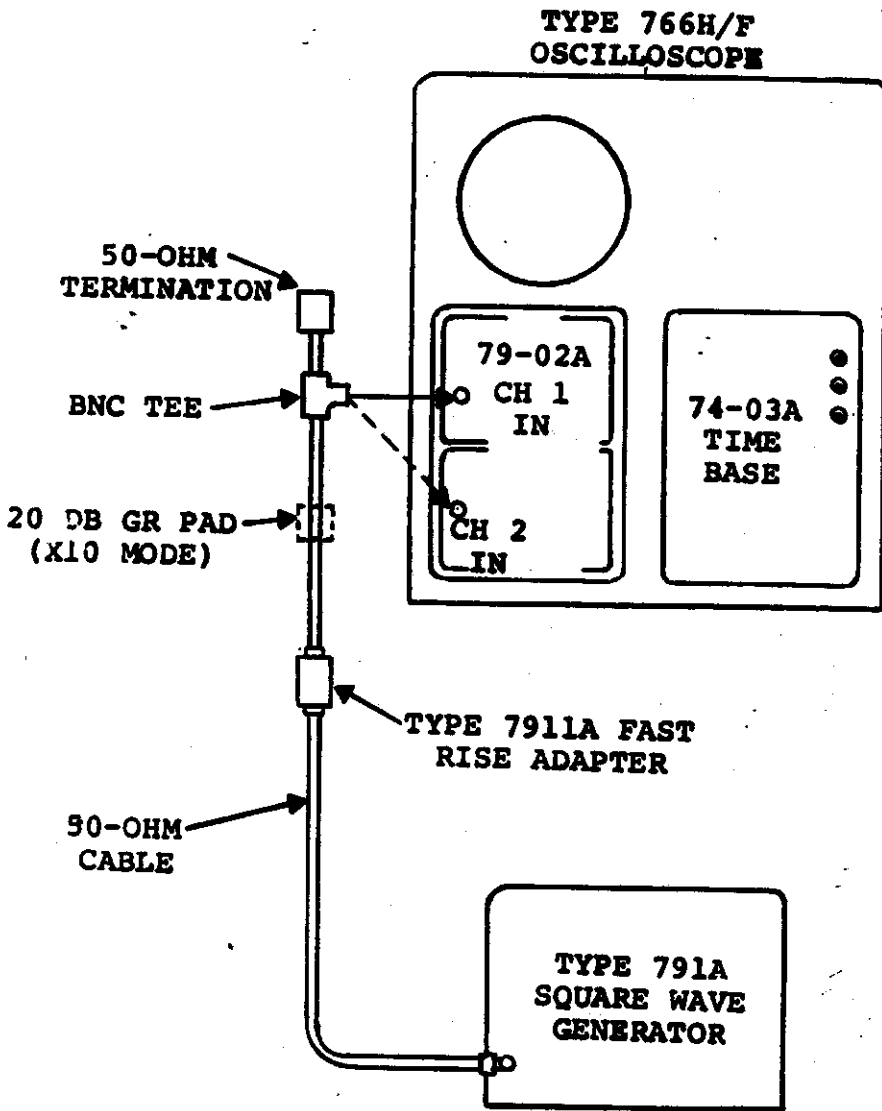

FIGURE 5-2. TEST SETUP FOR ADJUSTING HIGH FREQUENCY TRIMMERS
5-15. HIGH FREQUENCY ADJUSTMENTS (Figures 5-2 to 5-4)
1. Connect the output from a Fairchild Type 791A Square Wave Generator through a 50-ohm cable and a Type 7911A Fast Rise Step Generator and BNC Tee terminated in 50-ohm to the CH 1 Input connector on the Type 79-02A plug-in. See Figure 5-2.
6. Disconnect the square wave generator from Channel 1 and connect it to the Channel 2 Input connector. See Figure 5-2.
1. Referring to the test setup shown in Figure 5-2, insert a 20 db General Radio pad between the output of the Type 7911A Generator and to CH 1 Input connector.